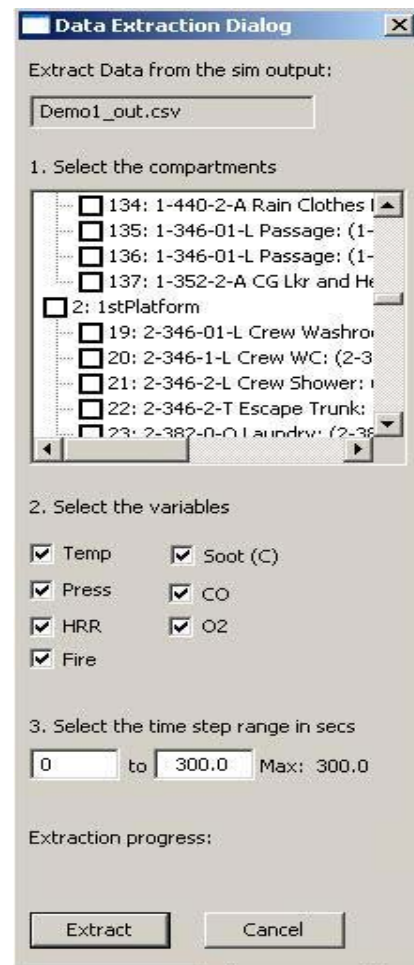

Figure 12-10 Data Extraction dialog
On the replay tab of the Fire Simulation popup dialog, the Extract Data mode lets the user select one or more compartments, select one or more variables, and specify the time range to extract simulation data into a csv (comma separated values) file for further analysis. After selecting the desired simulation from the Available Simulations dialog (obtained by clicking the *Select* button in the Replay tab), select the *Extract Data* mode (shown in Figure 12-9) to open the Data Extraction dialog. As soon as the *Extract Data* mode is clicked, the Fire Simulation dialog and the Object State Editor dialog are hidden and a new Data Extraction dialog as shown in Figure 12-10 pops up.
- a. First way is to click in the checkboxes of the tree in the data extraction dialog (Figure 12-10) to select or deselect the compartments.